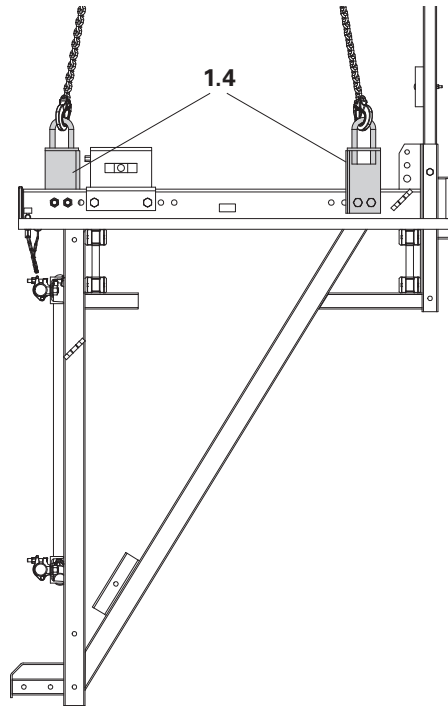

Fig. B1.19
2. Attach lifting gear hook to the bails of the platform connections. (Fig. B1.19)